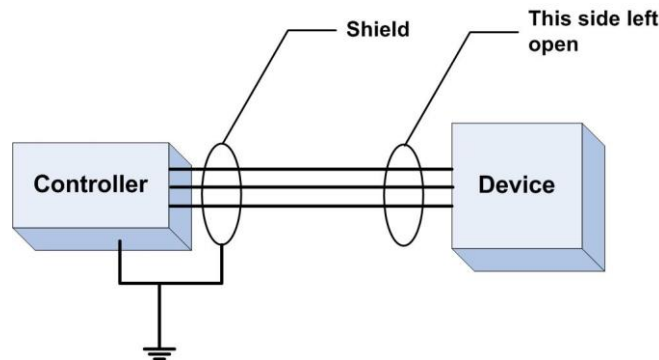

Figure 2-10 Communications Cable Wiring
- The communication cable shield must be connected to ground at one end-side *only*, preferably at the controller installation side (see Figure 2-10).